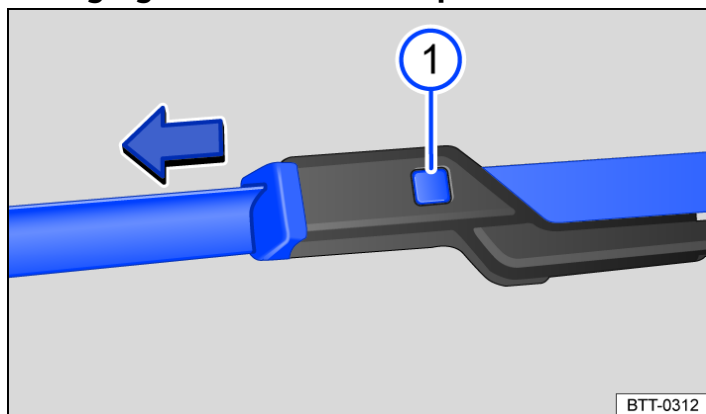

Fig. 1 Changing the windshield wiper blades.
- ① Unlock button of the wiper blade.
3. Press and hold the release button and remove the wiper blade at the same time in the direction of the arrow → fig. 1 ①.